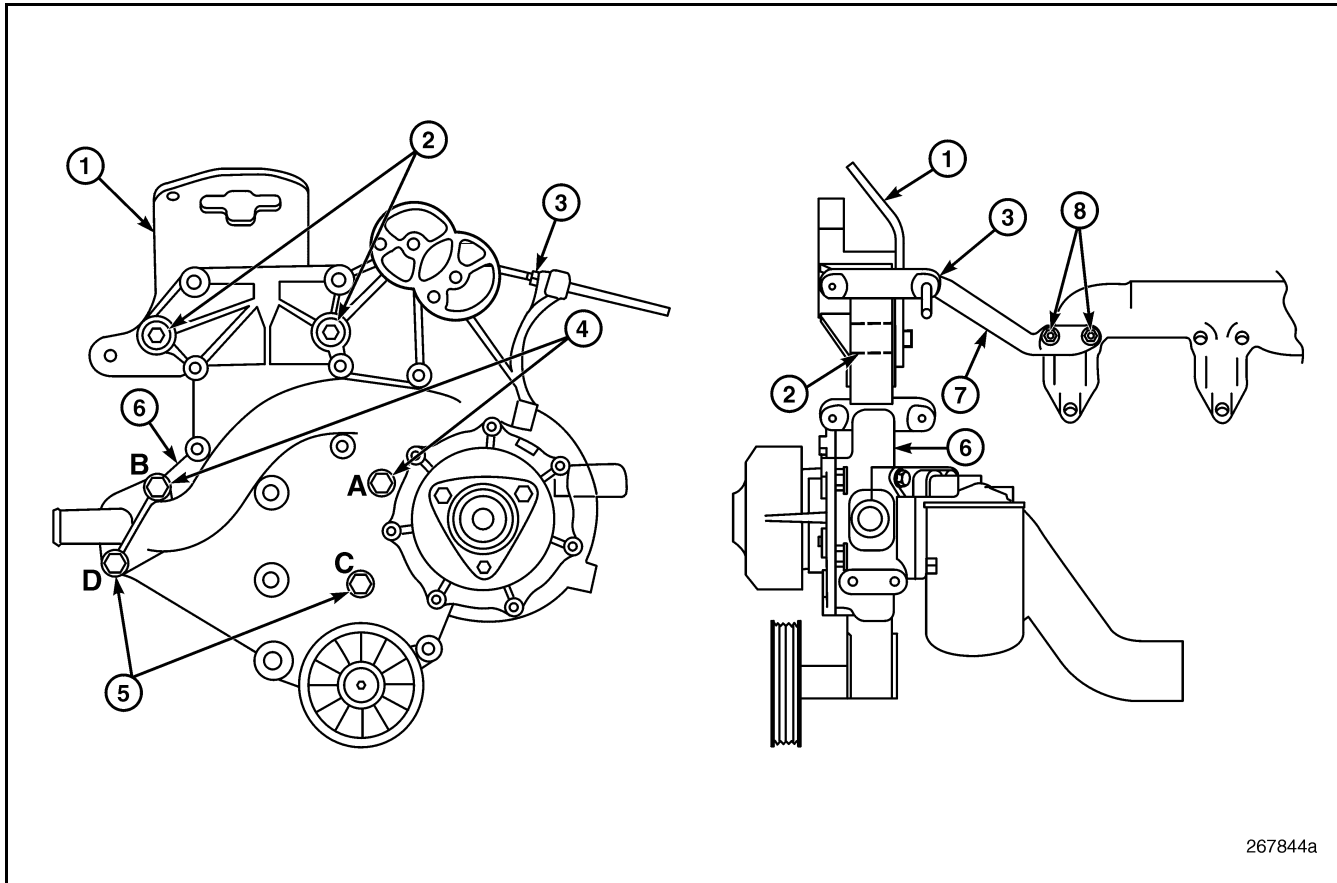

Figure 148 — Water Pump Assembly
7. Remove the water pump stiffening bracket by first removing the two M8 flanged nuts from the studs at the forward position of the coolant manifold. Then remove the M8 flanged nut from the backside of the A/C compressor upper mounting stud to release the water pump stiffening bracket. Refer to Figure 148.